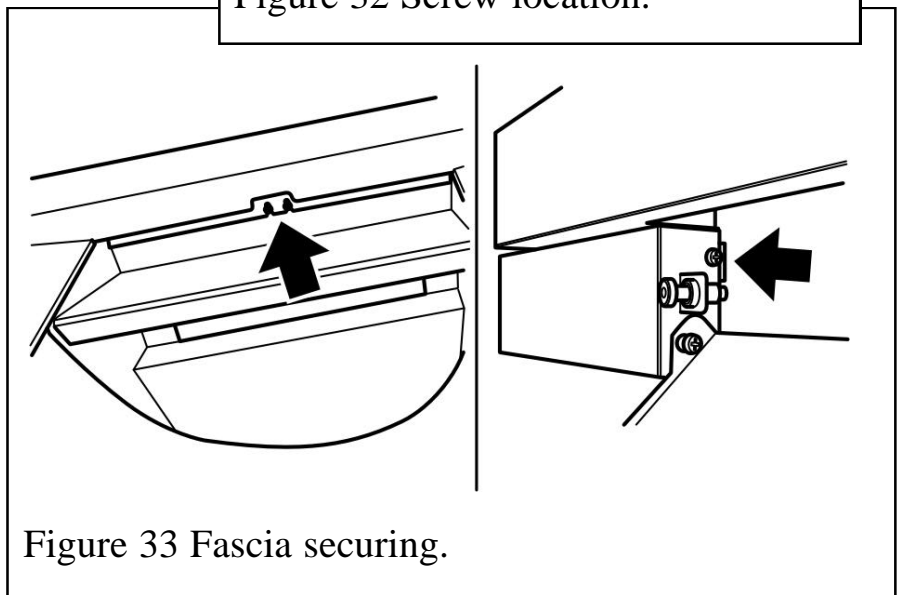

Figure 33 Fascia securing.
3. At the top of the fascia there are two cut-outs. Locate the cut-outs on to the screws at the top of the spillage plate (See figure 33).
4. The lower inner sides of the fascia should sit on top of the fascia securing brackets. The fascia will need to be re-positioned if the fascia sides fall behind the brackets (See figure 33). Secure the fascia using two self tapping screws supplied (See figure 33)